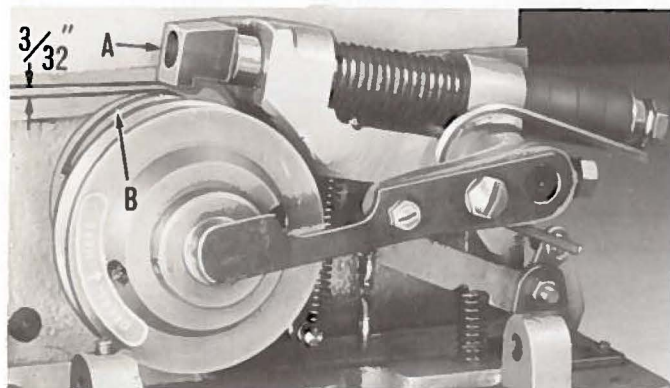

Fig. 3
Depress the treadle to take machine out of stop position and rotate pulley two complete revolutions in operating direction. Release treadle and measure distance between plunger (A, Fig. 3) and highest point on disc (B). The distance should be $\frac{3}{32}$ inch.